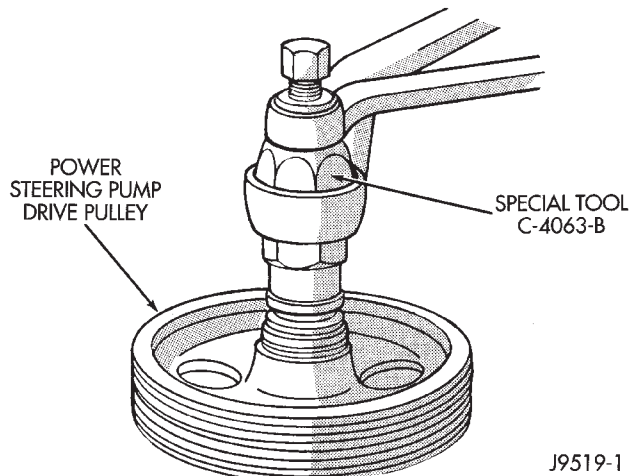

Fig. 6 Pulley Installation
- (2) Install pulley on pump with Installer C-4063-B (Fig. 6) flush with the end of the shaft. Ensure the tool and pulley remain aligned with the pump shaft.